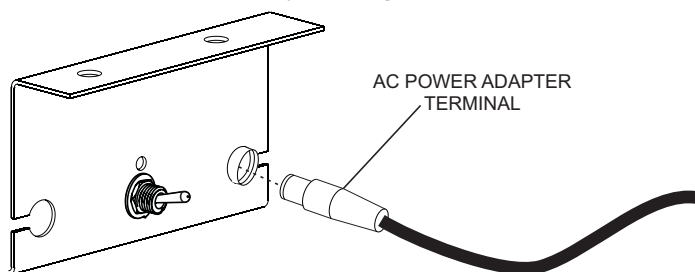

Figure 11
10. Plug power adaptor into receptacle in internal junction box. Connect Power Adaptor terminal into its receiver on the right of the burner assembly. **See Figure 11**.